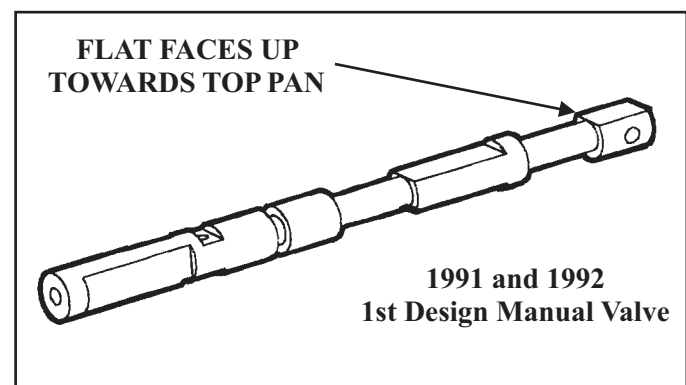

Figure 40
**NOTE:** The 1991 and 1992 1st design manual valve can be identified by a flat on the end which attaches to the shift linkage (See Figure 40). When properly installed, this flat should face the top pan, not the gear box. If this valve is installed upside down, there will be no reverse gear.